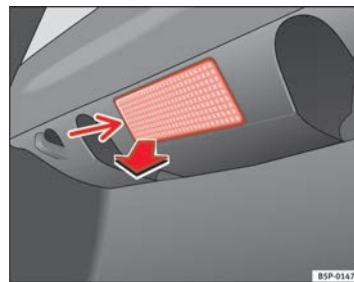

Fig. 197 Luggage compartment light
- Remove the bulb by pressing on the inside edge of this -arrow- using the flat side of a screwdriver ⇒ fig. 197. ▶